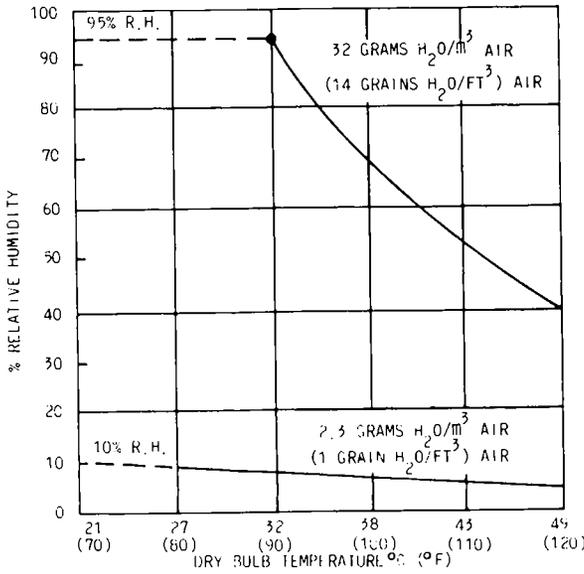

Fig. 21—Humidity Design Range
**4.01** Extreme conditions of temperature and humidity may have damaging effects on system equipment. Exposure to extreme temperature and humidity may degrade telephone service, not only at the time of exposure but also when a normal environment is restored. Table G outlines the equipment room environmental requirements. The humidity design range chart (Fig. 21) is provided to indicate the safe ranges for the equipment. The use of the chart requires a hygrometer to measure wet and dry bulb temperatures and a psychrometric table to determine the relative humidity from the difference in the two measurements.